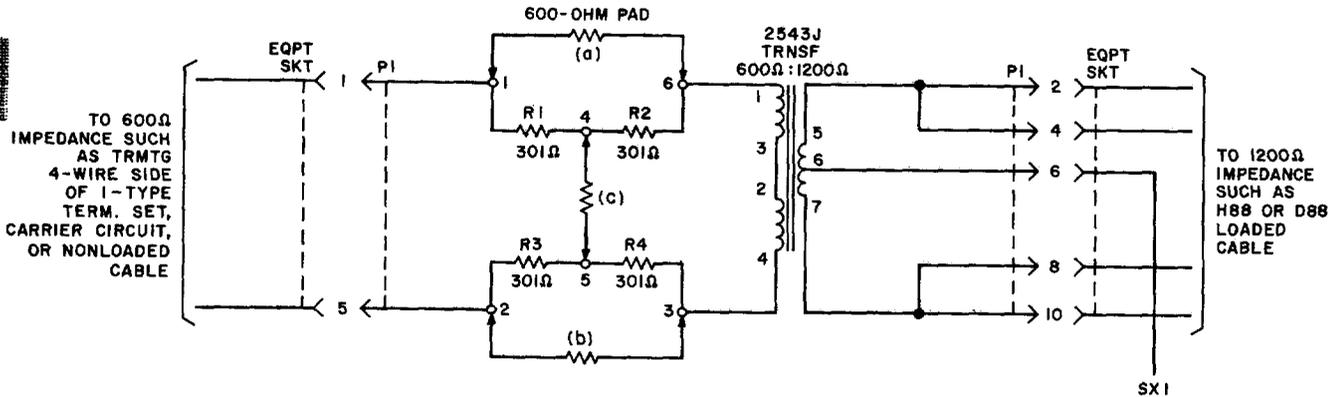

Fig. 2 — 849A Network — Schematic and Typical Circuit Connections
3.01 Fig. 2 is a schematic of the 849A network showing typical circuit connections. Transmission signals are applied through terminals 1 and 5. In V4 repeaters, terminals 2 and 10 normally connect the 1200-ohm network output to the 4-wire line through a 359-type equalizer. The output is also strapped to terminals 4 and 8 to provide flexibility in special applications.